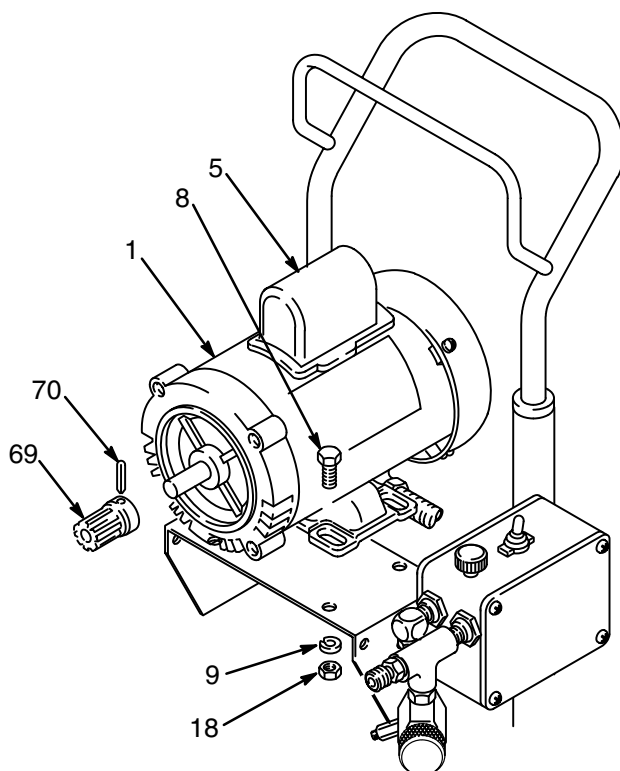

Fig 7
Unplug the sprayer. Remove the cover of the capacitor (5). See Fig 7. Remove the flag connectors from the old capacitor. Connect the flag connectors of the new capacitor and replace the cover.
Unscrew the nuts on both ends of the conduit (76) from the connector (75). Remove the screws (8), nuts (18) and lockwashers (9). See Fig 7. Lift the motor (1) while carefully guiding the wires through the connector in the control box. Remove the conduit (76) from the wires.
Drive out the pin (70) and remove the gear (69). See Fig 7.